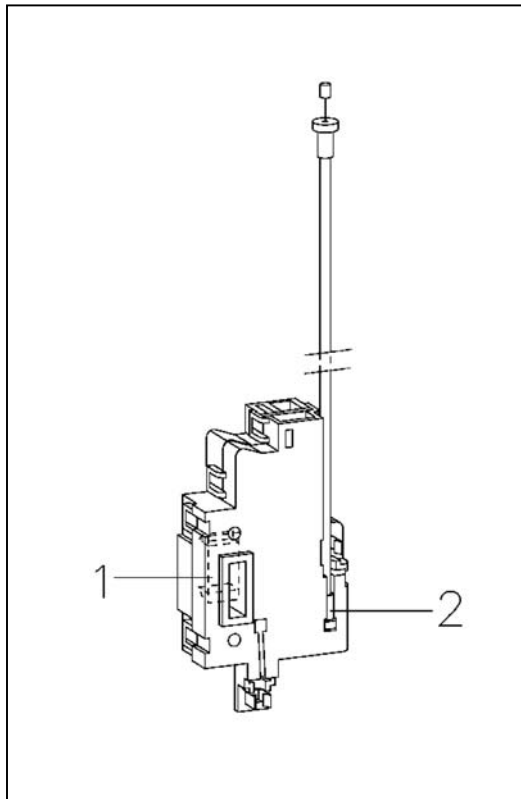

Figure 020-2: Door Lock
Refer to Figure 020-2. The Door Lock, (1) uses a snap-in style retainer to attach to the drum support housing.
5. Release the cable (2).